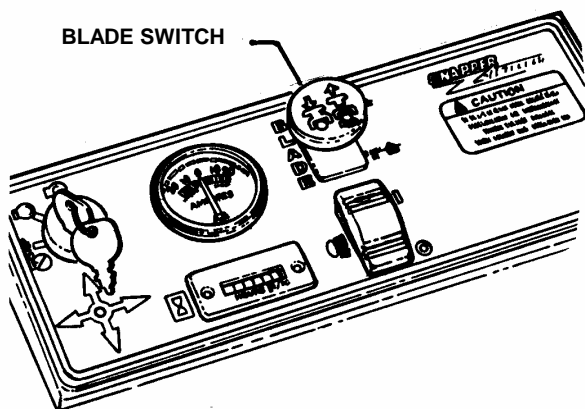

FIGURE 2.2
2.1.4. Check Blade switch to insure it works freely. Switch is pulled "OUT" for blade engagement or pushed back "IN" for blade disengagement. See Figure 2.2. **IMPORTANT:** Disengagement stops blades.
3. Push blade switch in to "OFF", blades disengaged position and engage parking brake. See Figure 2.2.
2. Pull the Blade Switch out to the "ON" position to engage the mower blades. See Figure 2.2.